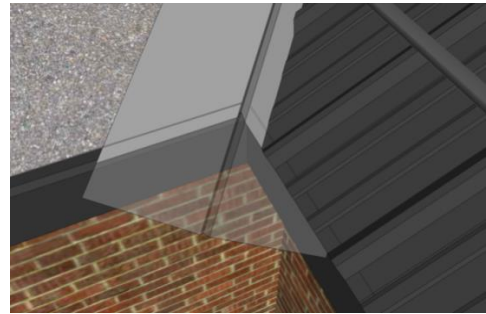

Figure 4
- After the roof is on you will probably need **Snow Guard**. We have several profiles that we make here (Fig4), as well as individual **Snowbirds**. All are effective if enough are installed, so your choice is mostly a matter of which ones are most appealing to you. One thing to keep in mind with the Mast Snow Guard is if you have trees close to your roof and your gutters tend to become clogged with debris, these will tend to do so as well. If you have a situation where you *must* use the Mast Snow Guard to keep water from overshooting your gutter, vent material can be put under them to keep debris out but still let water through.
Start at the drip edge with the valleys and work your way up. On the first valley push it down far enough that the shortest side (if there is one) overhangs the drip edge by 1 inch (See Figure 4). Push it tight into the roof, shifting it back and forth to find the center as you do. When you find the place that it fits snugly, hold it firmly in place while you use a  $\frac{3}{4}$  inch roofing tack to hold it in place. Place one tack out toward the edge of the valley, approximately an inch from the edge and about an inch from the bottom. If one piece of flashing will cover the entire length of the valley, move up to the top and push it tight into the valley and nail the top end like you did the bottom.